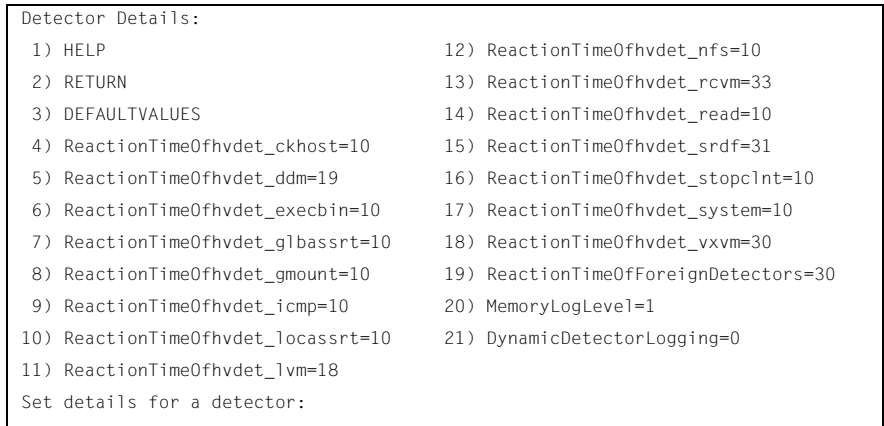

Figure 13: Wizard Tools Detector Details menu
- 2. Choose the *DetectorDetails* sub-menu. The screen in Figure 13 appears.